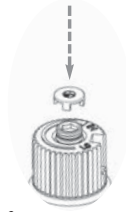

Fig.6
- 15) Re-assemble the black protection cap (Fig. 6).